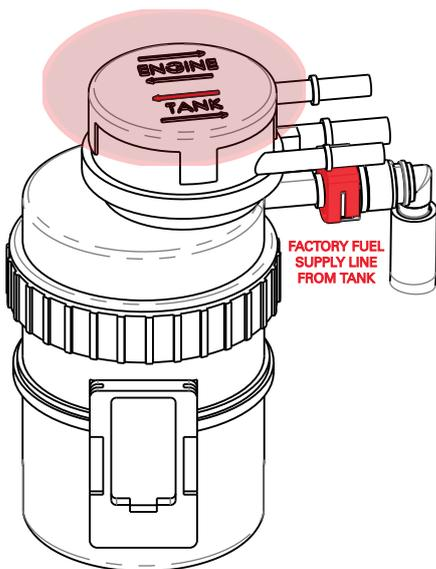

FIG. 5 FACTORY HOSE IDENTIFICATION
1. Locate the factory fuel supply line by starting at the factory fuel filter. Locate the larger lower red elbow connector (see Fig. 5), squeeze the coloured tabs to remove. Have a rag ready to capture any diesel that may spill out of the fuel line and the fuel filter.
3. Mount Z980K16 assembly onto metal bracket using the two (2) black M10 bolts supplied with the Z980K16.